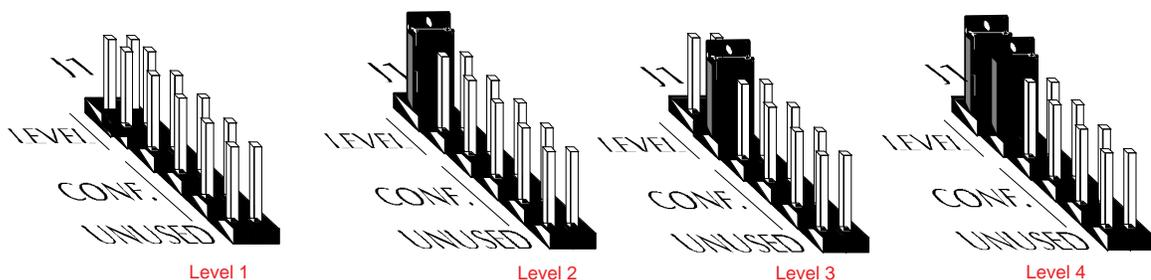

figure 1.6 Settings for level pins on J1 jumper
A level is a set of input and output signals. The inputs of one level can be routed to the outputs of that level if they are on the same I/O board. I/O boards do not derive their level number from their position on the rear of the enclosure, their level is established by setting the Level pins on the J1 jumper (see figure 1.6). The levels of all I/O boards are set at the fac-
5. Using the models in figure 1.6, set the pins to the desired level number.